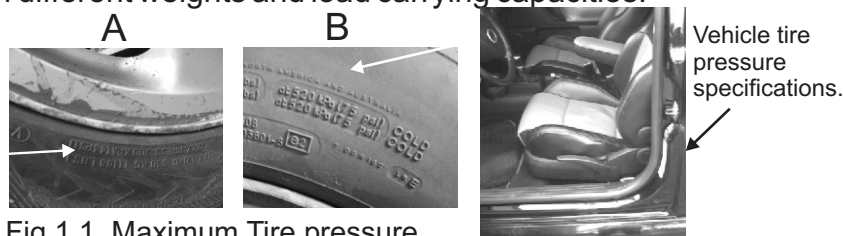

Fig 1.1 Maximum Tire pressure.
As an example , The tire in Fig 1.1 ( A )has a maximum inflation pressure of forty four Pounds per Square Inch (44 Psi). However the owner manual specifies, 36Psi for the front wheels and 32 Psi for the rear wheels .
Fig 1.1 (B) shows the tire of a Pickup truck , the maximum inflation pressure is Seventy five Pounds per Square Inch (75Psi). Regardless of the load this tire is carrying , the pressure must not exceed this value. Refusing to follow the recommended tire pressure specification can also lead to the